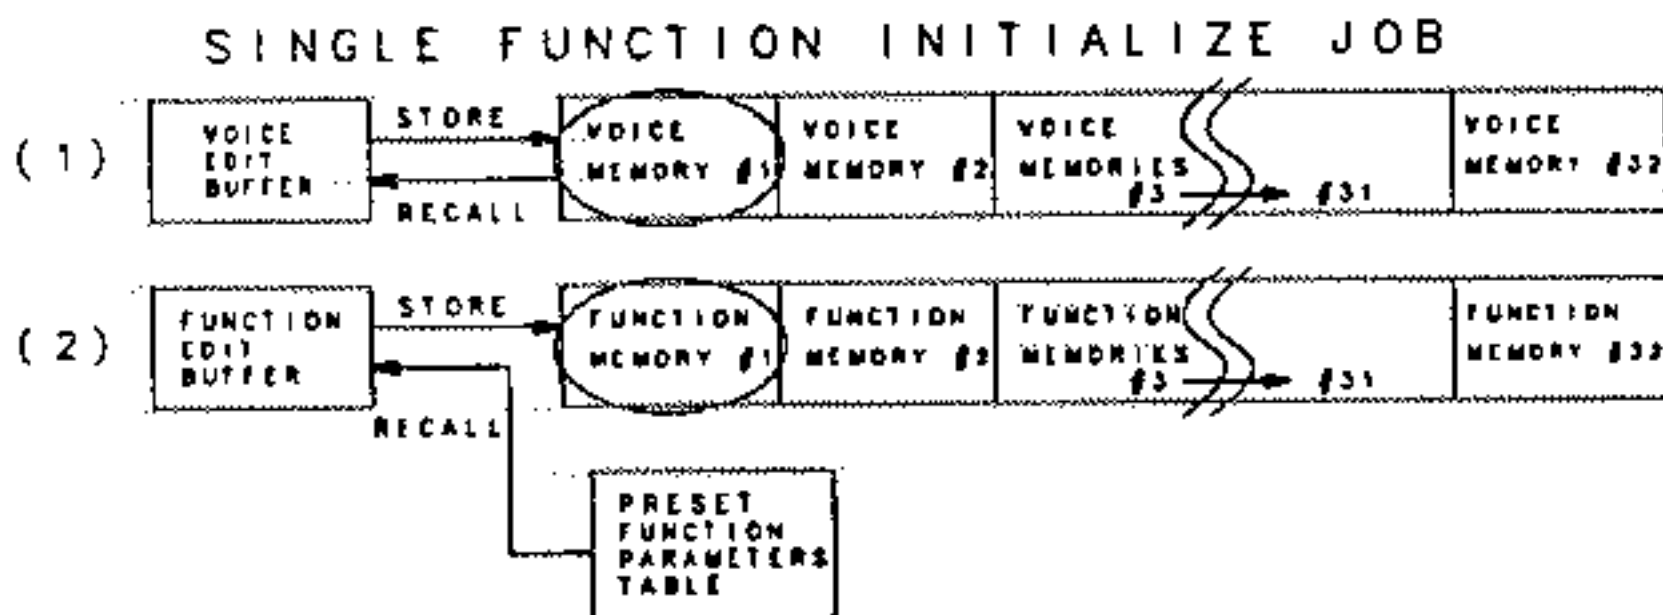

FIGURE 17
The PRESET FUNCTION PARAMETER settings are listed in the INITIALIZED FUNCTION PARAMETER CHART of APPENDIX C on PAGE 41. The PRESET FUNCTION PARAMETER settings are NOT saved to the specific VOICE that you selected to FUNCTION EDIT until you manually store them back. This will allow you to EDIT particular FUNCTION PARAMETERS while the others remain at their PRESET conditions. Once you have EDITED the PARAMETERS that you wanted, then you can store the VOICE along with its FUNCTION PARAMETERS from the EDIT BUFFER to the desired MEMORY location. If you want to change the name of the VOICE before storing it back, you would have to press the EDIT/COMPARE SWITCH and the VOICE NAME parameter (MEMORY SWITCH #32). For example, referring to FIGURE 17, if you selected the VOICE stored at MEMORY SWITCH #1, when you implement the SINGLE FUNCTION INITIALIZE JOB two things would happen. (1) The VOICE PARAMETERS are RECALLED to the VOICE EDIT BUFFER area, and (2) The PRESET FUNCTION PARAMETER settings are INITIALIZED or SAVED to the FUNCTION area of the EDIT BUFFER.